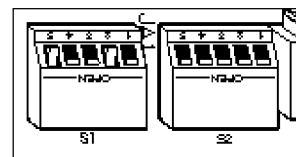

FIGURE 9A
Figure 9A shows the setting for non-standard probe calibration with temperature compensated stainless steel probe.
2. Set S1-“1” to the open (up) position for a temperature compensated probe (Figure 9A).
5. Switch S1-“4” must be in the closed (down) position for carbon graphite type probe or, S1-“5” must be in the closed (down) position for stainless steel type probe (as shown in Figure 9A).